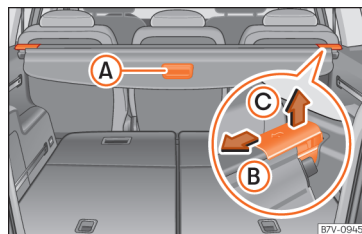

Fig. 141 In the luggage compartment: luggage compartment tray.
- Pull the shelf handle » » » Fig. 141 A a little bit backwards.
- Release the shelf in the direction of the arrow » » » Fig. 141 B.
- Lift the shelf off in direction of the arrow » » » Fig. 141 B.
- Release the shelf in the direction of the arrow » » » Fig. 141 B and lift it in the direction of the arrow C.